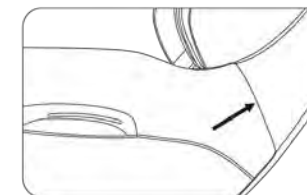

Figure 4
- Insert the back-end of the armrest into the decoration cover of the upper arm. (Figure 4)